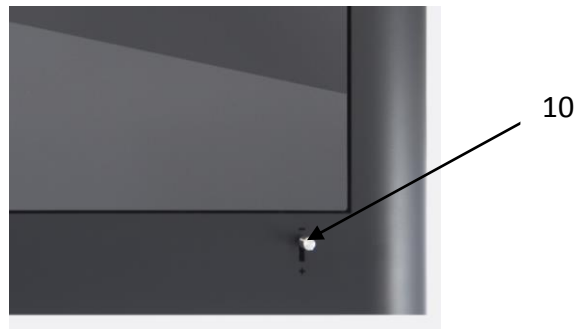

Figure 4
Starting the heating stopple is made through the handle (Figure 4, item 10) located above the oven door. It serves to shorten the flue gases paths during fuelling. The coating features symbols "+" and "-", which determine the open and closed positions of the heating stopple.